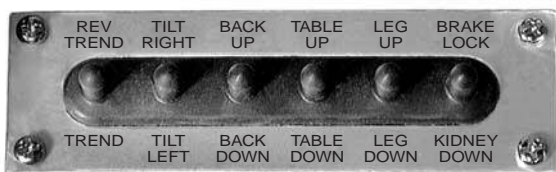

Figure 3-13. Emergency Back-Up Controls
b. In the event of either a power failure or a problem with the hand-held pendant control, the table can be operated using the emergency back-up switches. Simply push the desired emergency switch in the appropriate direction to operate the table functions. See figure 3-13.